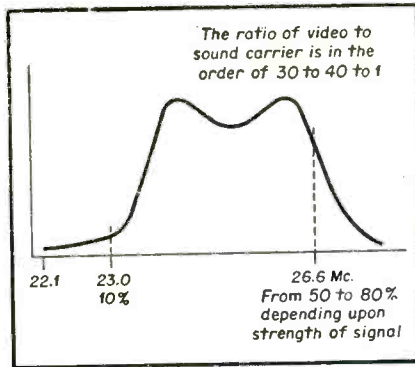

Fig. 3. Video i-f response after alignment
13. Observe VIF Response curve, and repad i-f poles so that the response curve shown in Fig. 3 is obtained.